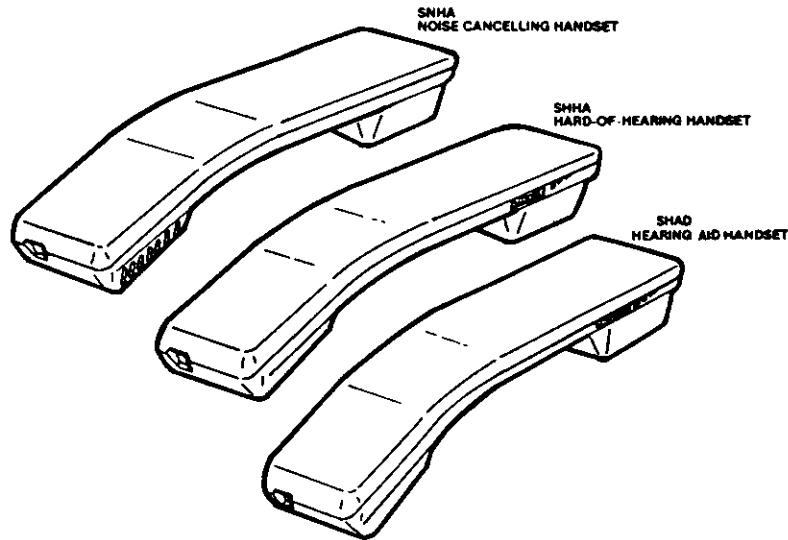

FIGURE 4-54 KEY TELEPHONE HANDSETS
2. Plug the cord into the model SNHD-Z Noise Cancelling Handset referring to Figure 4-54.
2. Plug the cord into the model SHHD-Z hard-of-hearing handset referring to Figure 4-54.
2. Plug in the cord into the SHAD-Z handset referring to Figure 4-54.